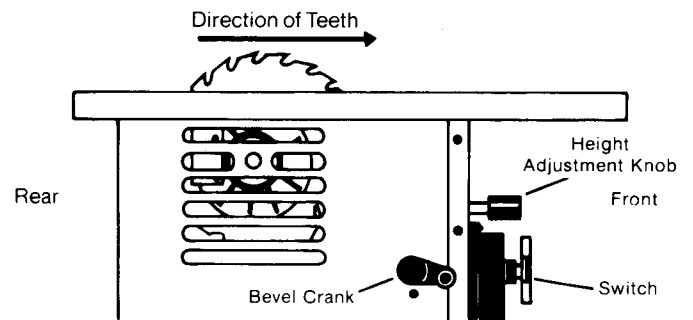

Figure 16
POINTING TOWARD THE FRONT OF THE SAW. (See **figure 16**.) (FRONT OF SAW IS THE SIDE WITH THE SWITCH) NOTE: Saw blades are sharp, use care in handling them.
3. Adjust blade by turning the Bevel Crank in the appropriate direction until the saw blade is 90° to the Table Top. (**figure 16**.)